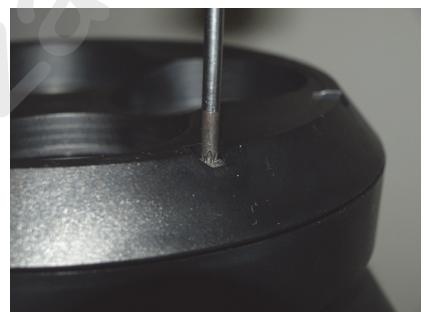

Figure 4
7. See Figure 4. Fasten the module in place by tightening the four screws on the front of the module.